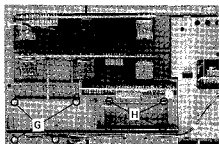

Fig. 2.7
2.7 Removing the indicating instruments (Fig. 2.7)